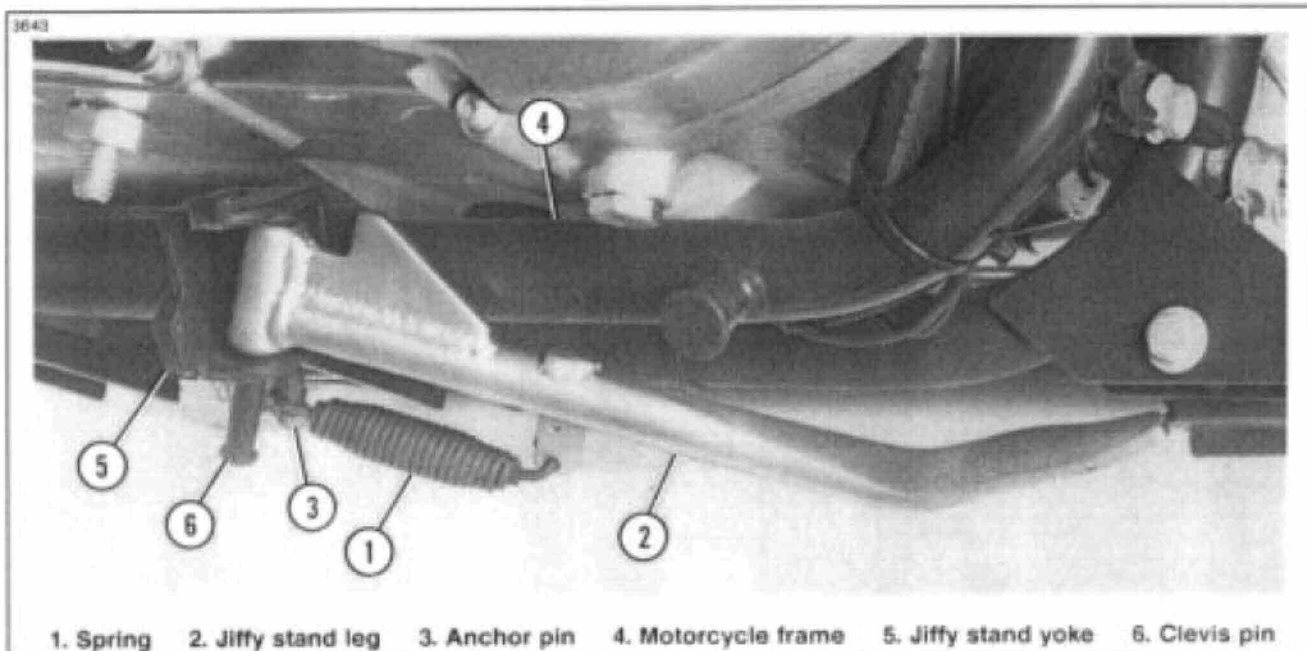

Figure 1. Jiffy Stand (Partially Installed)
2. See Figure 1. Hook either end of spring (1) into spring mounting hole on jiffy stand leg (2). Apply a small amount of wheel bearing grease into groove of anchor pin (3) on new motorcycle frame (4). Install loose end of spring over anchor pin.
3. Holding the end of spring in groove of anchor pin, and holding the jiffy stand leg in retracted position (approximately), position the pivot end of jiffy stand leg within yoke (5) weldment on frame. Lightly coat the clevis pin (6) with wheel bearing grease. Insert clevis pin through bottom hole of yoke and halfway into pivot hole of jiffy stand leg.